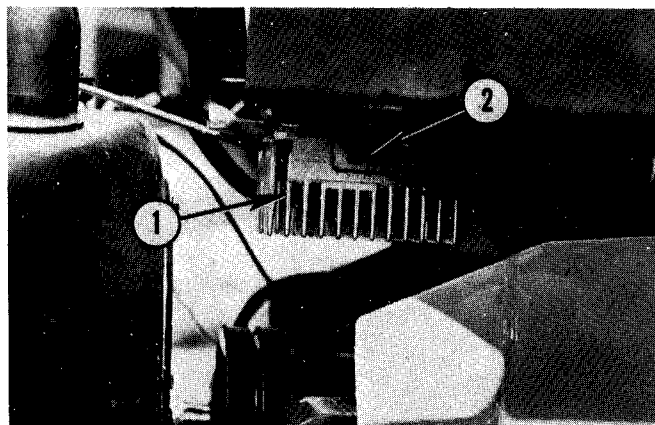
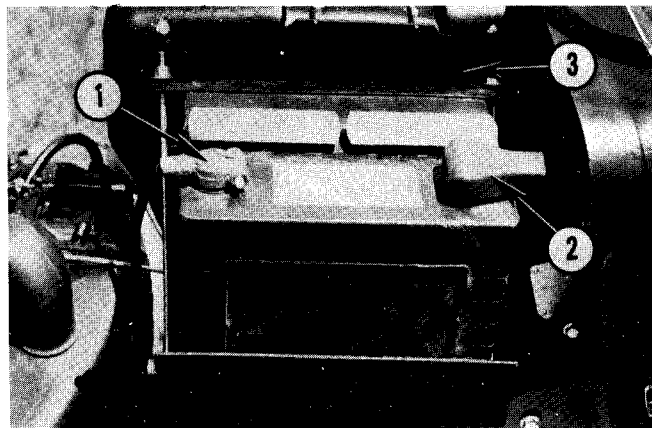

Fig. 11 — Rectifier-Regulator
Fig. 12 — Battery
b. If battery loses its charge and requires jumping, make sure alternator is disconnected. To disconnect, pull connector, No. 2, Fig. 11, from rectifier-regulator, No. 1. Failure to do so can cause damage to alternator when battery is jumped. When using a booster battery, always connect cables positive (+) to positive, and negative (-) to negative, Fig. 12. Battery posts are marked. If battery requires charging, always remove from Tractor. Reconnect plug in rectifier-regulator after engine is started.